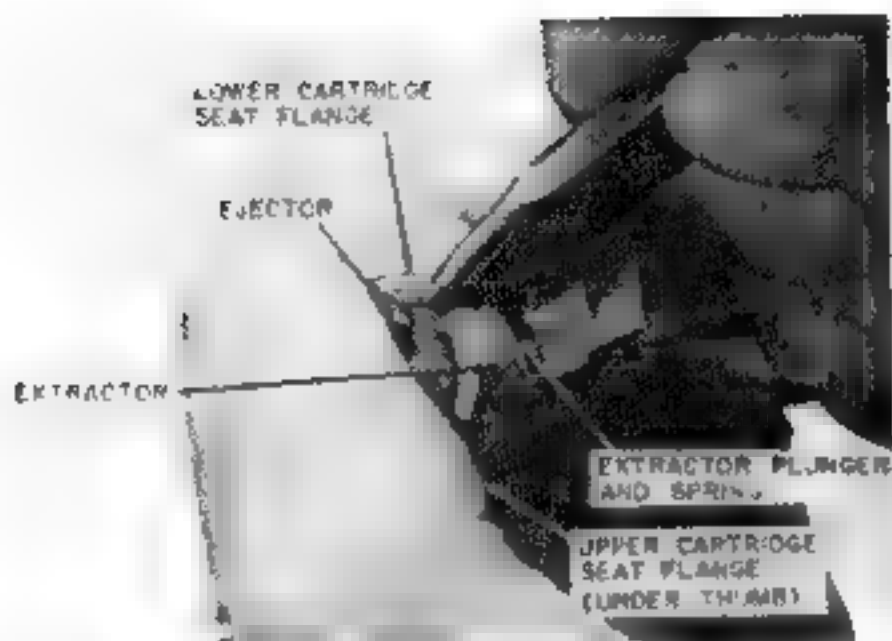

Fig. 65. Unseating the extractor.
(1) To detail strip the bolt, hold the bolt in your left hand. Place the blade of a combination tool or a screw driver between the extractor and the lower cartridge seat flange (Fig. 65). With your left thumb over the extractor, twist the blade against the extractor and unseat it. The ejector will snap up against your left thumb. Remove the